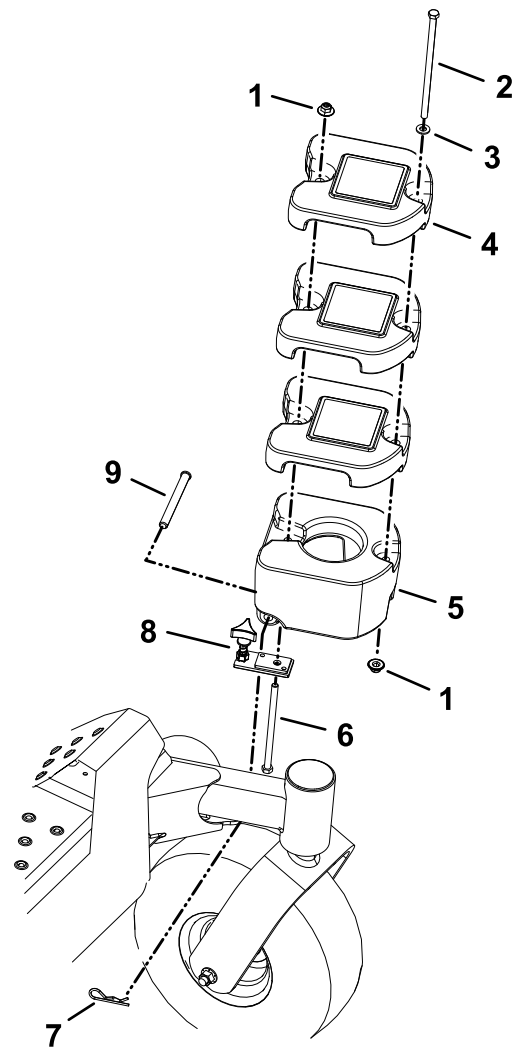

Figure 6
1. Insert the bolt (3/8 x 6-1/2 inches) into hole on the bottom side of the bracket and the rear of the removable 20.4 kg (45 lb) caster weight (Figure 6).
2. Secure the bottom of the bracket to the caster arm using a clevis pin and hairpin cotter (Figure 6).
3. Tighten the knob on the weight assembly until it is clamped securely to the caster arm (Figure 6).
4. Install 3 caster weights (9.1 kg (20 lb) over the weight assembly bolt and stack them securely onto the 20.4 kg (45 lb) caster weight (Figure 6).
5. Secure the rear of the weight assembly with a locknut (3/8 inch) as shown in Figure 6.
6. Install the bolt (3/8 x 8 inches) and washer through the top of the front holes of the weight assembly and secure it using a locknut (3/8 inch) as shown in Figure 6.